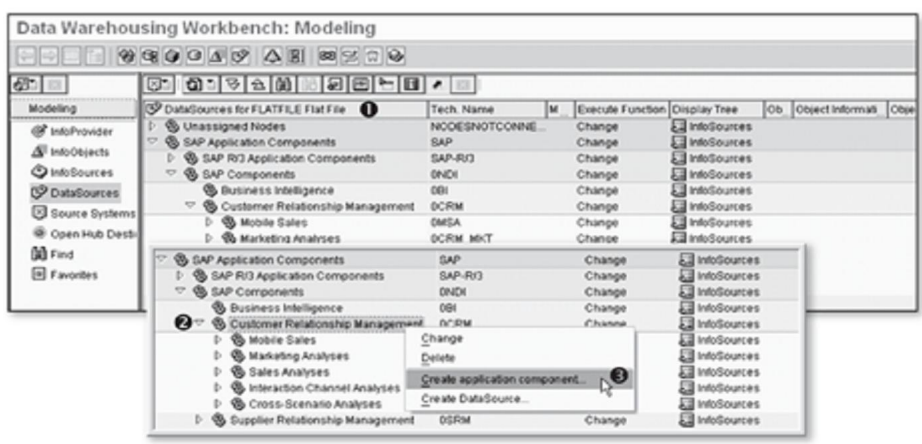
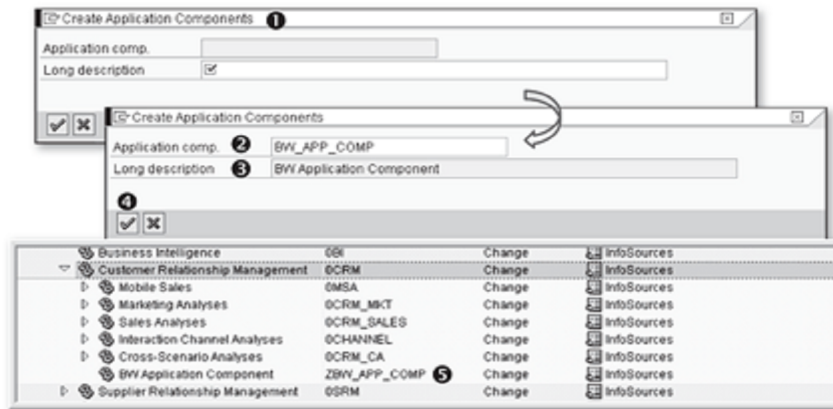

Figure 7.7 Creating Application Components
Figure 7.8 Creating Application Component ZBW_APP_COMP
The result of this action is shown in Figure 7.7, which shows an application component hierarchy (❶); just as InfoProviders are attached to InfoAreas, DataSources are attached to application components (❷). These application components are used for organizing the DataSource. As shown in Figure 7.7, you can create application components within other application components, depending on your requirements.
In our example, you'll create a new application component simply to learn the process (normally, you would use the application component hierarchy replicated from the SAP source system). Select OCRM (Customer Relationship Management), as shown in ❷ of Figure 7.7, and select Create Application Component from the context menu (❸). The screen that appears next is shown in ❶ of Figure 7.8. Enter the technical name and description of the application component. In this example, we use technical name "BW_APP_COMP" (❷ of Figure 7.8) and the description "BW Application Component" (❸). Click on the Continue icon.
The result of this action is visible in ❹ of Figure 7.8. BW Application Component is now available under Customer Relationship Management, and the system has added the prefix "Z" to the technical name (❺), which indicates that it's a customer-defined application component.